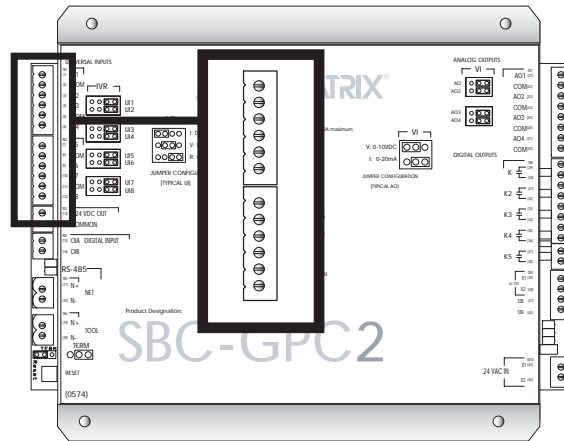

Figure 2-7: Location of the Universal Inputs on the SBC-GPC2
The SBC-GPC2 provides a total of twelve (12) universal inputs (UIs). It has eight (8) on-board universal input points shown in Figure 2-7. These correspond to the Universal Input 1 through Universal Input 8 channels. Universal Input 9 through Universal Input 12 are exclusively for use with SBC-STAT1D, SBC-STAT2D, and SBC-STAT3 modules.